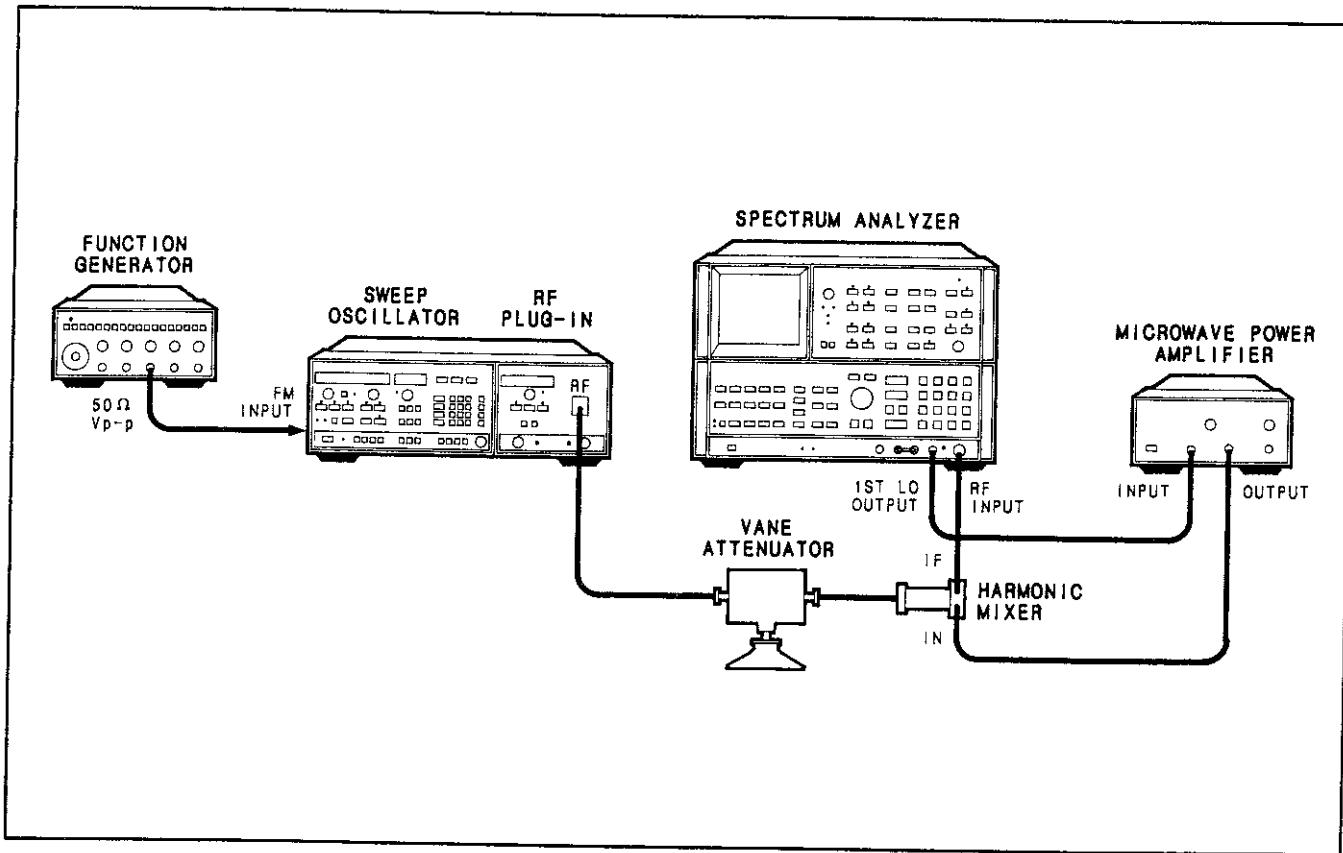

Figure 4-13. External Frequency Modulation Test Setup
1. Ensure that the RF plug-in modulation sensitivity is set to  $-20$  MHz/volt and the modulation coupling to DC. Refer to section III of this manual for information on setting the configuration switch. Connect the equipment as shown in Figure 4-13. Set the vane attenuator to 20 dB.